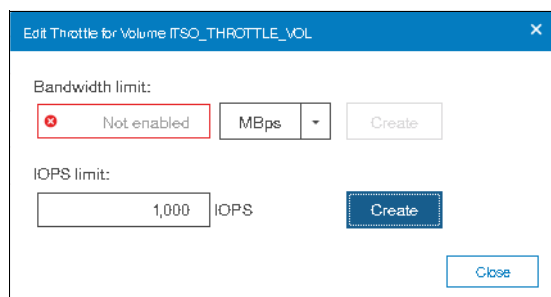

Figure 6-66 IOPS throttle on a volume
2. A window will come up where you can set the throttle either in terms of IOPS or bandwidth (MBps) or both. In our example, we set the throttle on IOPS as shown in Figure 6-66.